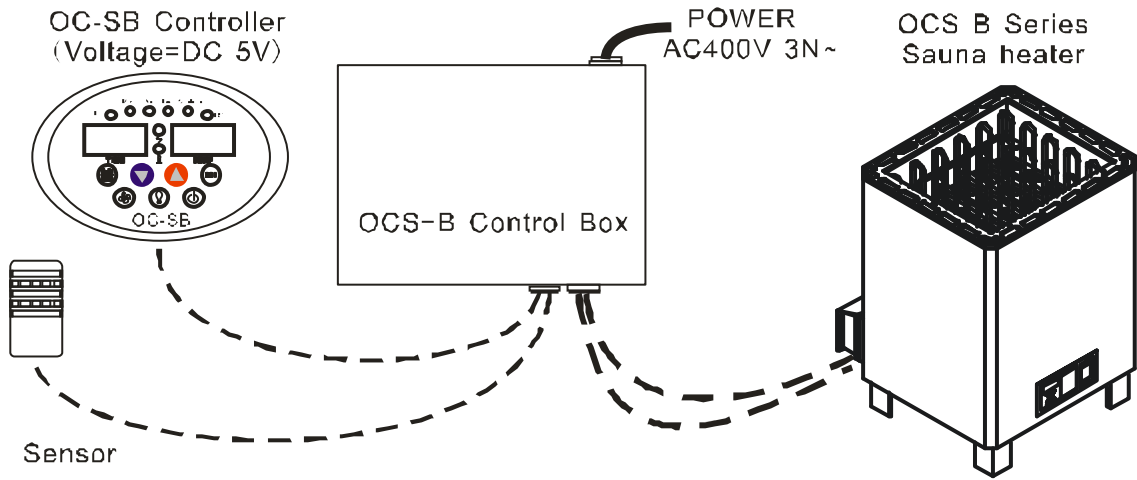

Fig 8
- Remove the cover panel & connect power supply wire & control cable through the wire anchorage to the Terminal as per fig. 8 and replace the cover panel.